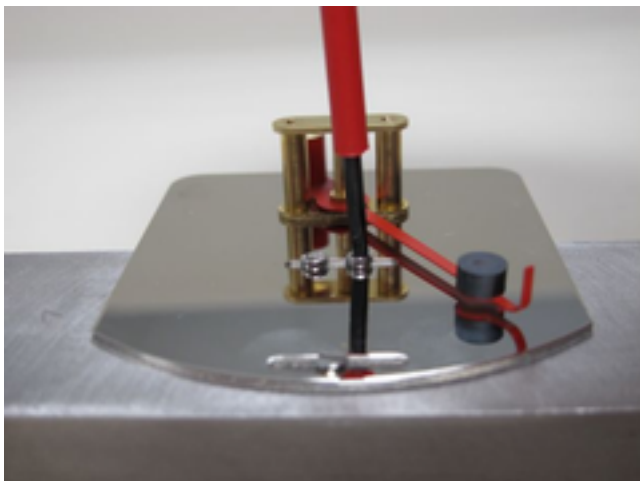

Fig. 47: Loosen the base plate
- 5.** ➤ Loosen fixing screws of the display base plate (*Fig. 47*) and remove the display base plate.